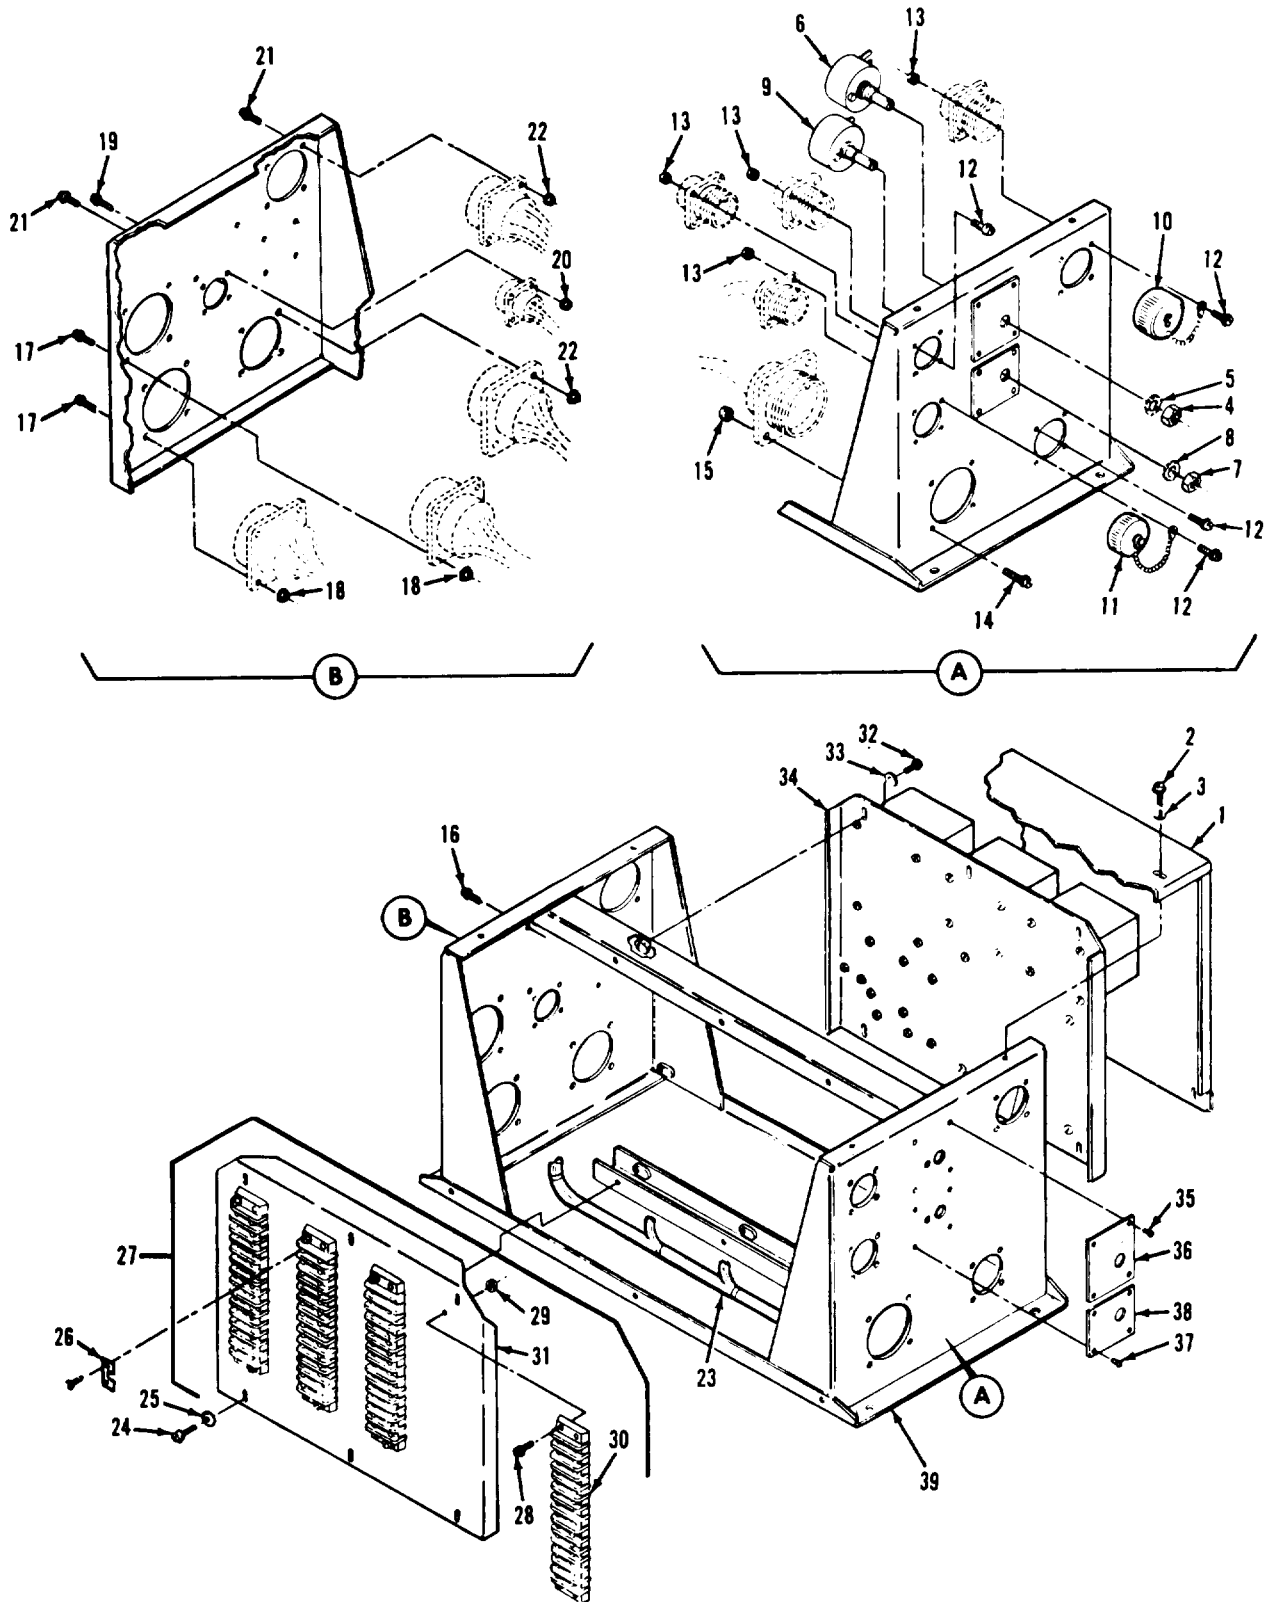

Figure 6-34. Mode II relay box assembly (A27), exploded view
**Legend to figure 6-34:**
g. Remove nuts (4 and 7, figure 6-34) and washers (5 and 8) securing rheostats (6 and 9) to chassis assembly (39).
h. Remove wire harness (23) by removing the four screws and nuts securing each of the ten connectors to the chassis assembly (39).
6-134. REASSEMBLY. Refer to figure 6-34 and reassemble the mode II relay box assembly in reverse order of index numbers assigned. Pay particular attention to the following:
h. Secure cover (1, figure 6-34) to chassis assembly (39) using ten screw assemblies (2) and washers (3).